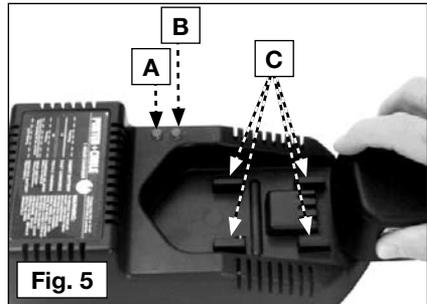
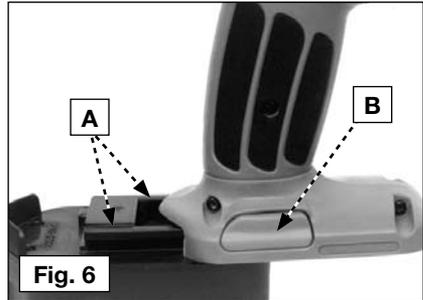

Fig. 5
Fig. 6
Make sure power circuit voltage is the same as that shown on the charger specification plate. Connect charger to power source. The green light (A) Fig. 5, should begin to flash. This indicates the charger is ready to begin charging.
Position battery pack on charger, align rails (A) Fig. 6 on battery pack with four tabs (A) Fig. 5 on charger. Slide battery forward onto charger until it stops.
The green light (A) Fig. 5, should begin to glow continuously, indicating that the battery pack is receiving a "Fast Charge" (if the green light does not glow continuously, or if the red light (B) Fig. 5, also begins to flash: see DIAGNOSTICS). After approximately one hour, the "Fast Charge" indicator light should go out indicating that the battery pack is fully charged and that the charger is now in a "Trickle Charge" mode. The battery pack can be left on "Trickle Charge" until you are ready to use it.
- A continuously **flashing** green light (A) Fig. 5 indicates that the battery pack temperature is either too high or too low for charging. If left alone, the charger will continue to monitor the battery pack temperature, and will begin charging when the temperature reaches an acceptable level.
- A continuously **glowing** Green light (A) and a flashing red light (B) indicates that the battery pack is receiving a "Fast Charge", but that the battery pack voltage is low. A new or a fully discharged battery pack may give this indication for the first several minutes. If the red light continues to flash throughout the charge cycle, the pack is weak and will provide reduced performance. (The pack is still usable, but will not provide maximum power or work per charge). This battery pack will probably require replacement in the near future.
- A continuously **flashing green and red light** (A) and (B) indicates that the battery pack has failed. This pack is not chargeable and requires replacement.
To remove the battery pack, depress the battery release button (B) Fig. 6, and pull battery pack out of tool.
To install the battery pack, align the rails (A) Fig. 6 on the battery pack with the slots on the tool. Push the battery pack on the tool until it locks in place.